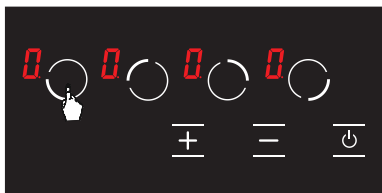

Figure 15
2. Press the front left hob selection key (  ) again. (See Fig. 15)